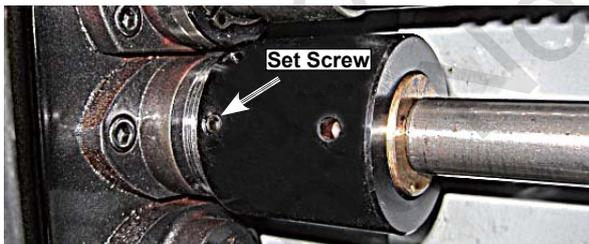

Figure 95. Removing set screw from clutch collar.
3. Remove the clutch collar set screw, as shown in Figure 95.